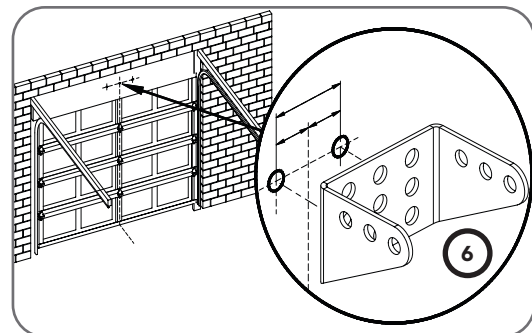

Fig.6.2.2
- Draw two lines extending 0.846" (21.5mm) from each side of the centre point (Fig.6.2.2).
- Centre the wall bracket (6) over the intersection of these two lines. Mark centres for at least two holes and ensure it is into a solid mounting point.
wood screw #20 or similar (minimum 1.97" 50mm long) (Fig.6.2.2).